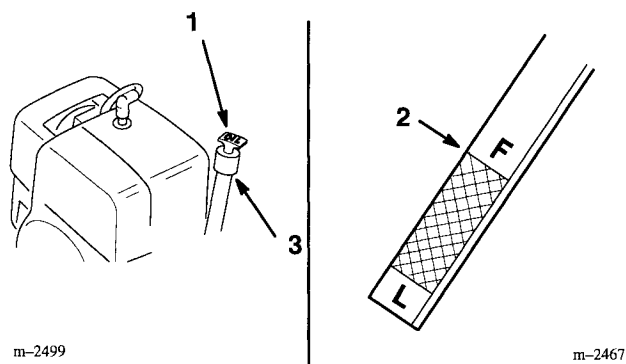

Figure 18
3. Clean around the oil dipstick (Fig. 18) so dirt cannot fall into the filler hole and damage the engine.
4. Pull the oil dipstick out and wipe the metal end clean (Fig. 18).
5. Push the oil dipstick fully into the filler tube (Fig. 18). Pull the dipstick out and look at the metal end. If oil level is low, slowly pour only enough oil into the filler tube to raise the level to the "FULL" mark.
6. Slowly pour approximately 80% of the specified amount of oil into the filler tube (Fig. 18). Now check the oil level; refer to Checking Oil Level, page 20. Slowly add additional oil to bring to "FULL" mark on dipstick.